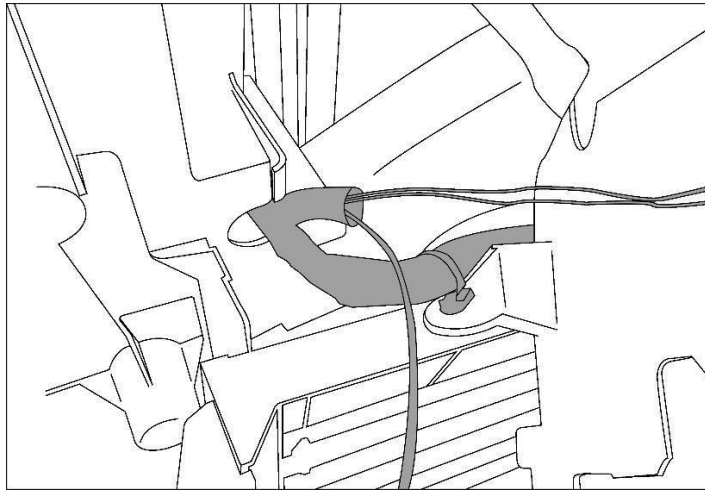

Figure 8 – Camera Coax cable shown routed down, hood latch sensor routed right.
10. Very carefully remove the loom from both ends of the above-mentioned harness back to the main section of the harness running along the bottom of the shutter assembly. You will be separating the camera harness from the loom and re-routing it. (fig 8)